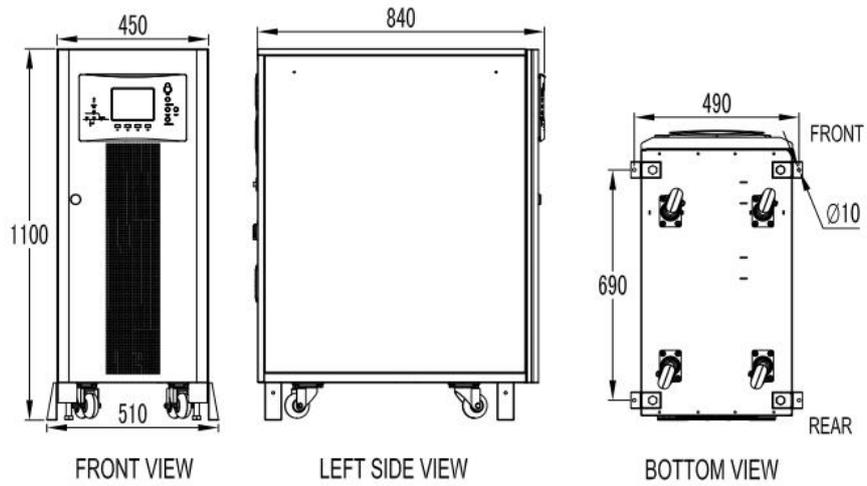
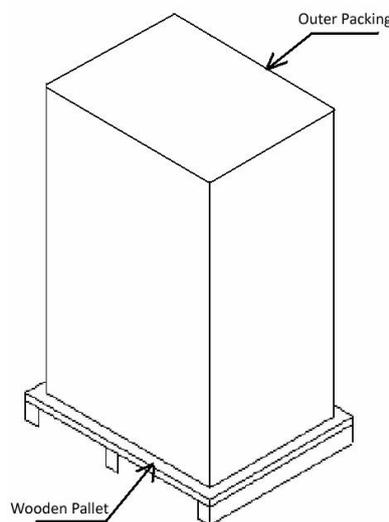

Figure 2-2 10-20 kVA inverter Dimensions
Figure 2-5 Outer Packing and Wooden Pallet
Check the weight of each cabinet (see Table 2-1) before transportation. The cabinet is screwed to the wooden pallet with the protection of packing material (see figure 2-5).
- Before removing the cabinet from the wooden pallet, remove the screws which can only be seen after the front plate and rear plate at the bottom of the cabinet are removed. Please refer to Figure 2-2 to Figure 2-5 for the fixed position.